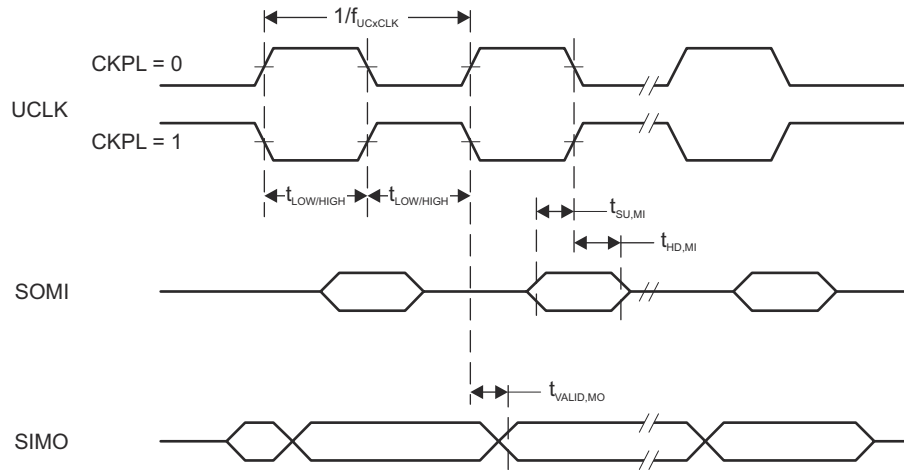
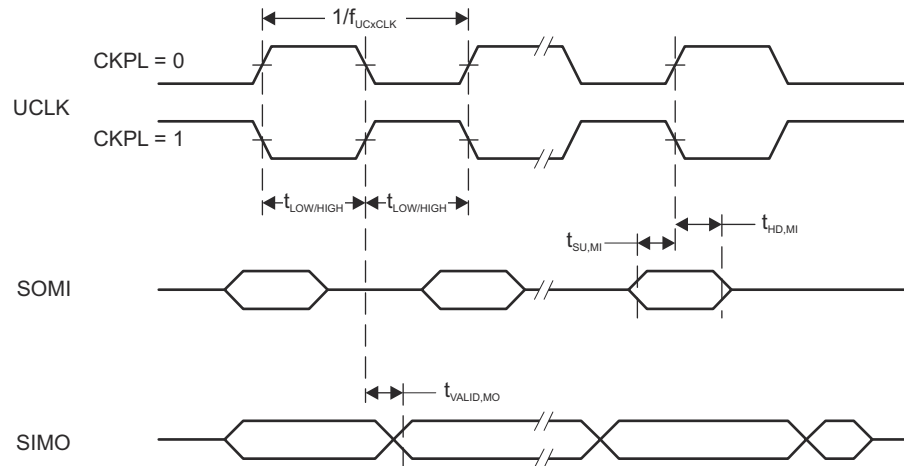

Figure 8-10. SPI Master Mode, CKPH = 0
Figure 8-11. SPI Master Mode, CKPH = 1
- (2) Specifies the time to drive the next valid data to the SIMO output after the output changing UCLK clock edge. See the timing diagrams in Figure 8-10 and Figure 8-11.
- (3) Specifies how long data on the SIMO output is valid after the output changing UCLK clock edge. Negative values indicate that the data on the SIMO output can become invalid before the output changing clock edge observed on UCLK. See the timing diagrams in Figure 8-10 and Figure 8-11.